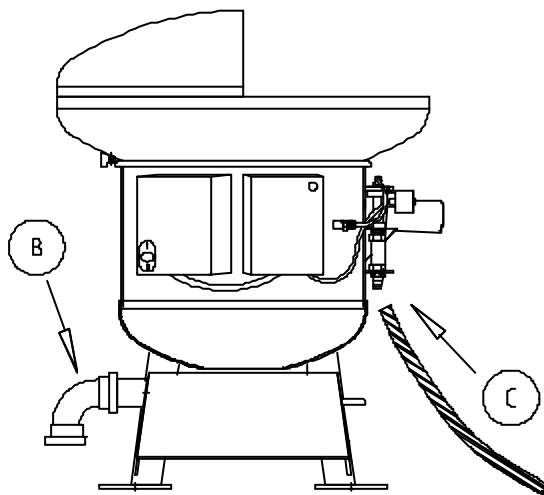

Figure 9: Assembly of Ball Washer
- IV. Press the enclosed curved waste water pipe as far as possible onto the outlet of the dirt tray. Then connect the other end of the waste water pipe to the existing drain as appropriate. See Figure 9: Assembly of Ball Washer at (B)
- V. Connect a 1/2" water hose between the water pipe nipple and a tap. See Figure 9: Assembly of Ball Washer at (C). Open the tap completely.